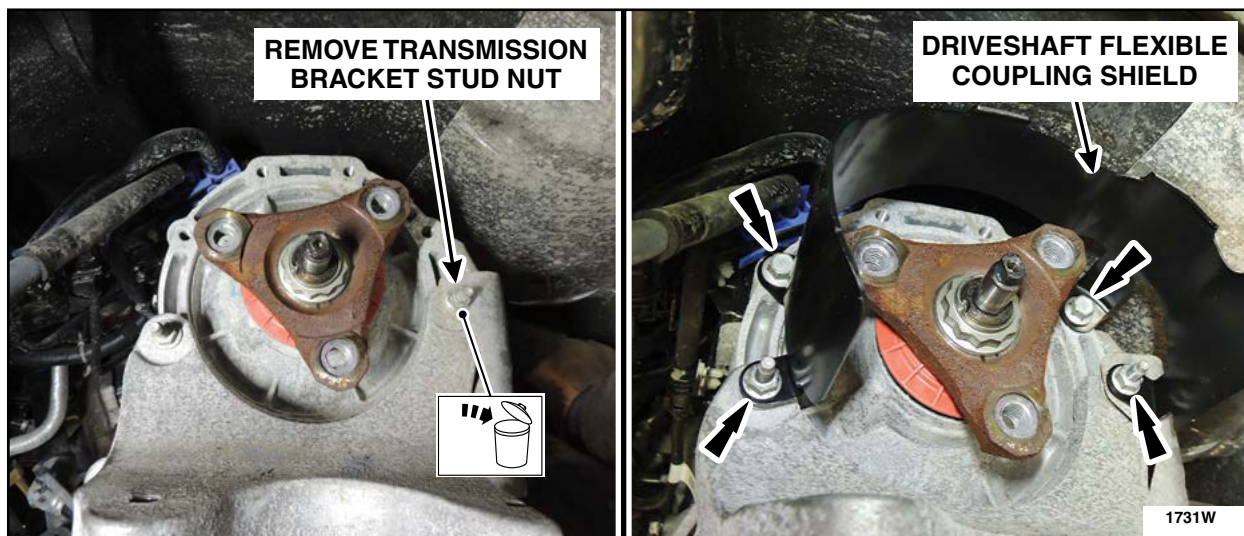

FIGURE 8
7. Install the driveshaft flexible coupling shield. See Figure 8.